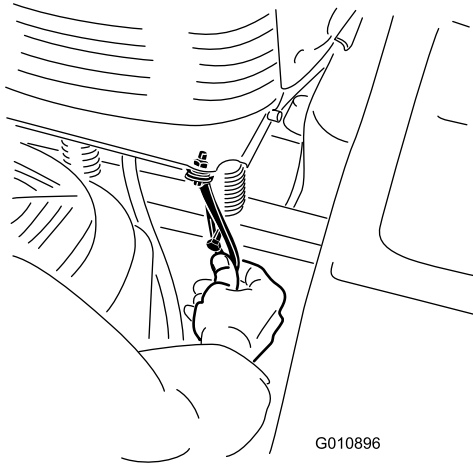

Figure 3
5. Install the bolt and jam nut assembly to the holes in the seat frame (Figure 3). Secure it with another jam nut (1/4 inch).